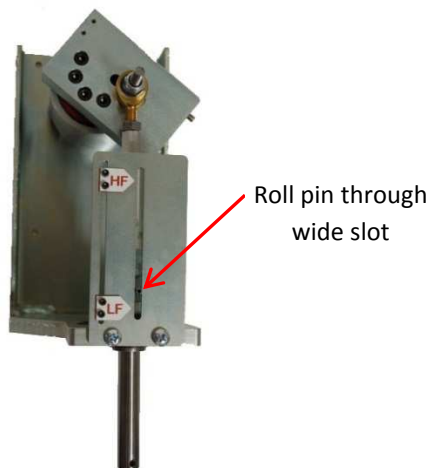

Figure 8: Position Indicator Assembly
6. Attach indicator bracket to main bracket assembly by screwing the two #10-24 pan head screws into the threaded holes in the side of the bracket assembly. The roll pin from the stem assembly should slide into the wider slot in the indicator bracket. This bracket also doubles as an anti-rotation device so that the stem assembly does not rotate during boiler operation. The assembly should appear as shown in Figure 8.
7. Use some of the remaining Lubriplate grease to thoroughly lubricate the valve stem. Carefully lower the assembly shown in Figure 8 down onto the fuel oil controller, taking great care not to damage the packing with the grooved pin or the valve stem.